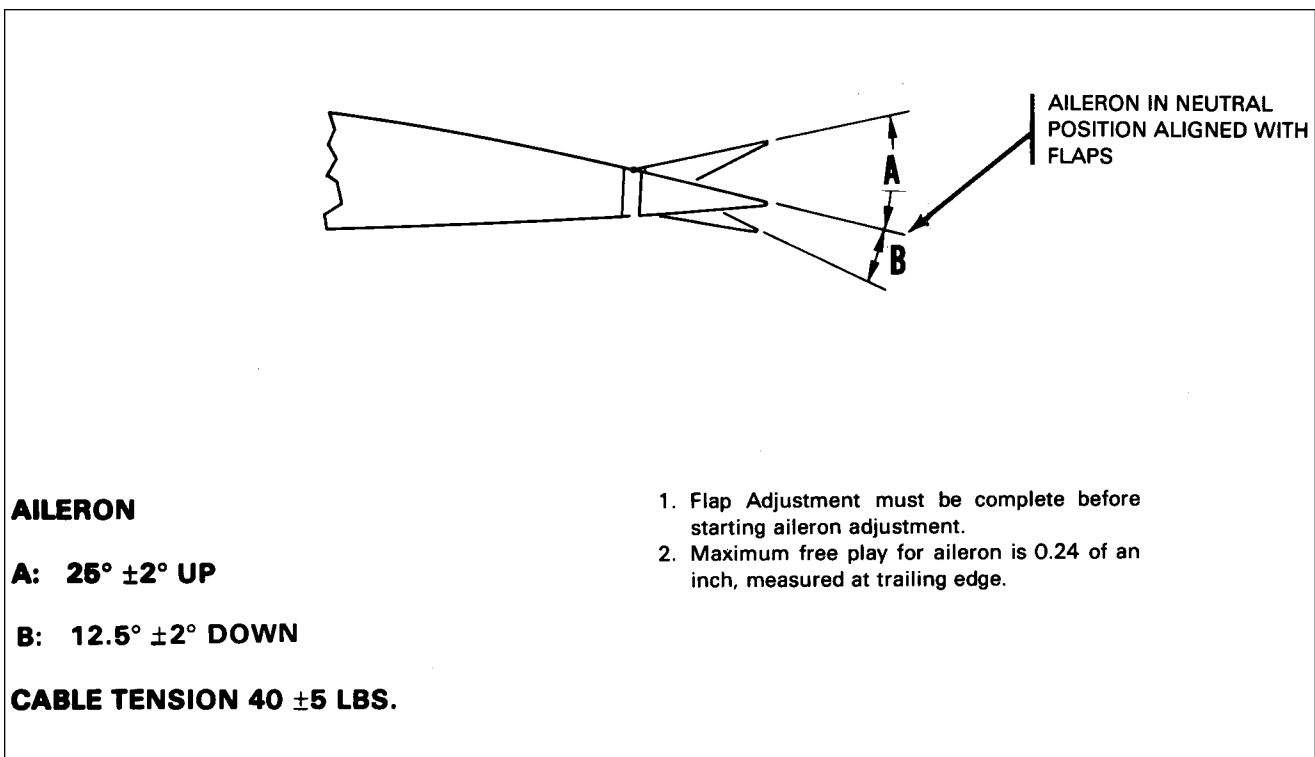

Figure 27-5. Aileron Rigging
4. Install and adjust control rod and check aileron travel per Figure 27-5.
6. Tighten the control cables at the balance cable turnbuckle in the floor opening aft of the main spar. Check cable tension per Figure 27-5.
4. Adjust primary and balance cable tension as given in Figure 27-5 by the following procedure:
5. Check the ailerons for correct travel from neutral per dimensions given in Figure 27-5, by the following procedure: